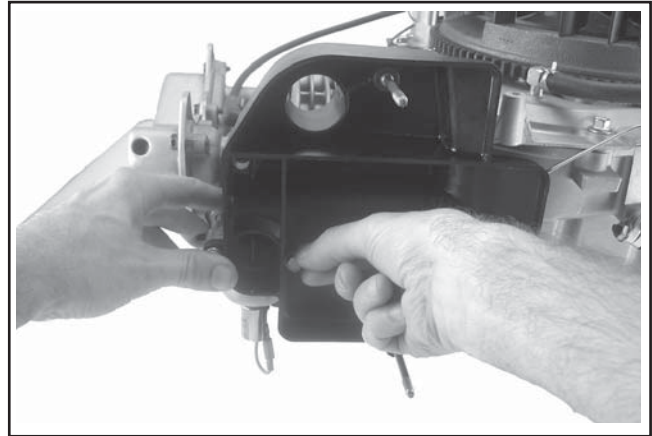

Figure 10-66. Installing Mounting Screw. (Models with one stud and one screw).
- b. **Models with one screw and one mounting stud only:** Apply hand pressure to keep the parts from shifting, then carefully remove the alignment pin and install DRY the long M6 thread forming screw – DO NOT OIL. See Figure 10-66. Check to make sure all gaskets are still in proper position.